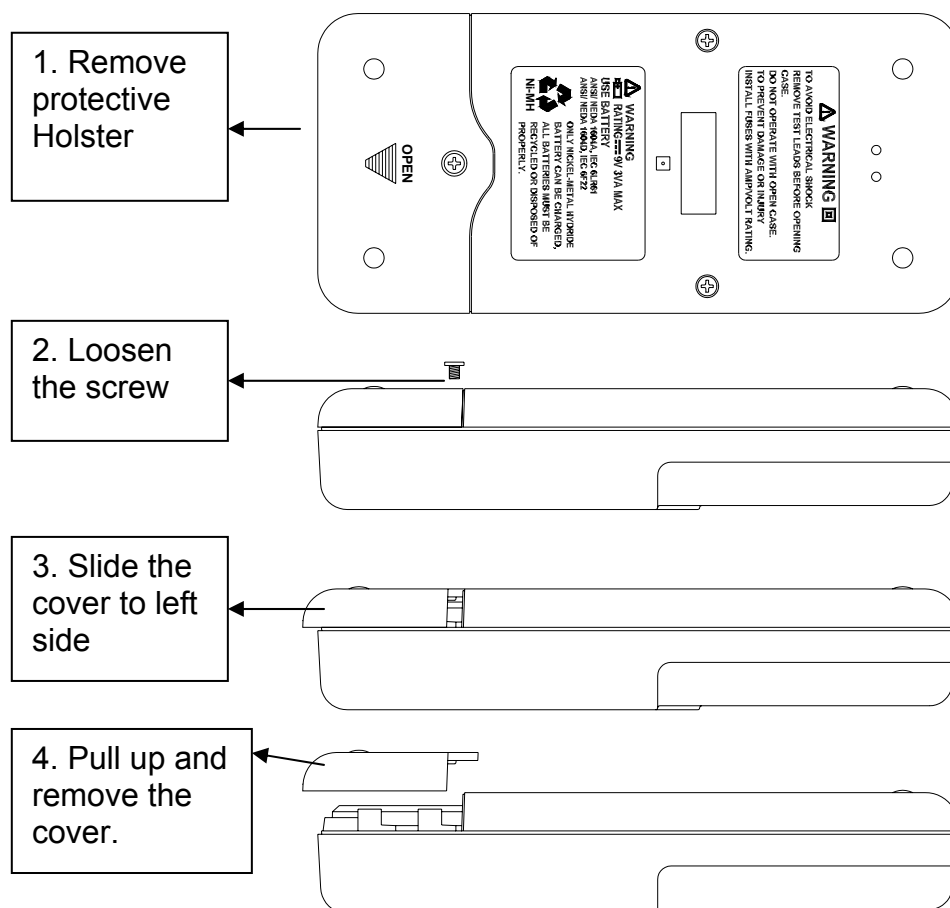

Figure- 64. Battery replacement
3. Slide down the battery cover, then pull up and remove the cover. See **Figure-64**.